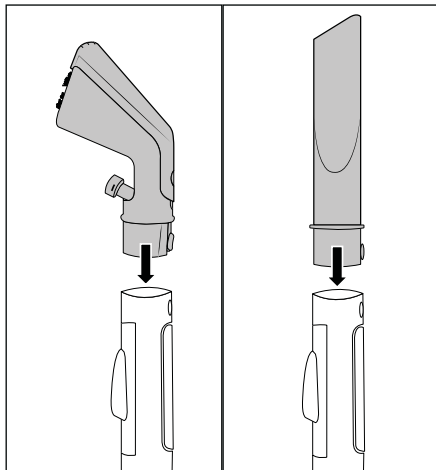

Fig. 3
- ◆ Insert the upholstery nozzle **22** or crevice nozzle **29** into the spray/suction hose **19** until the locking button **25/32** engages (see Fig. 3).